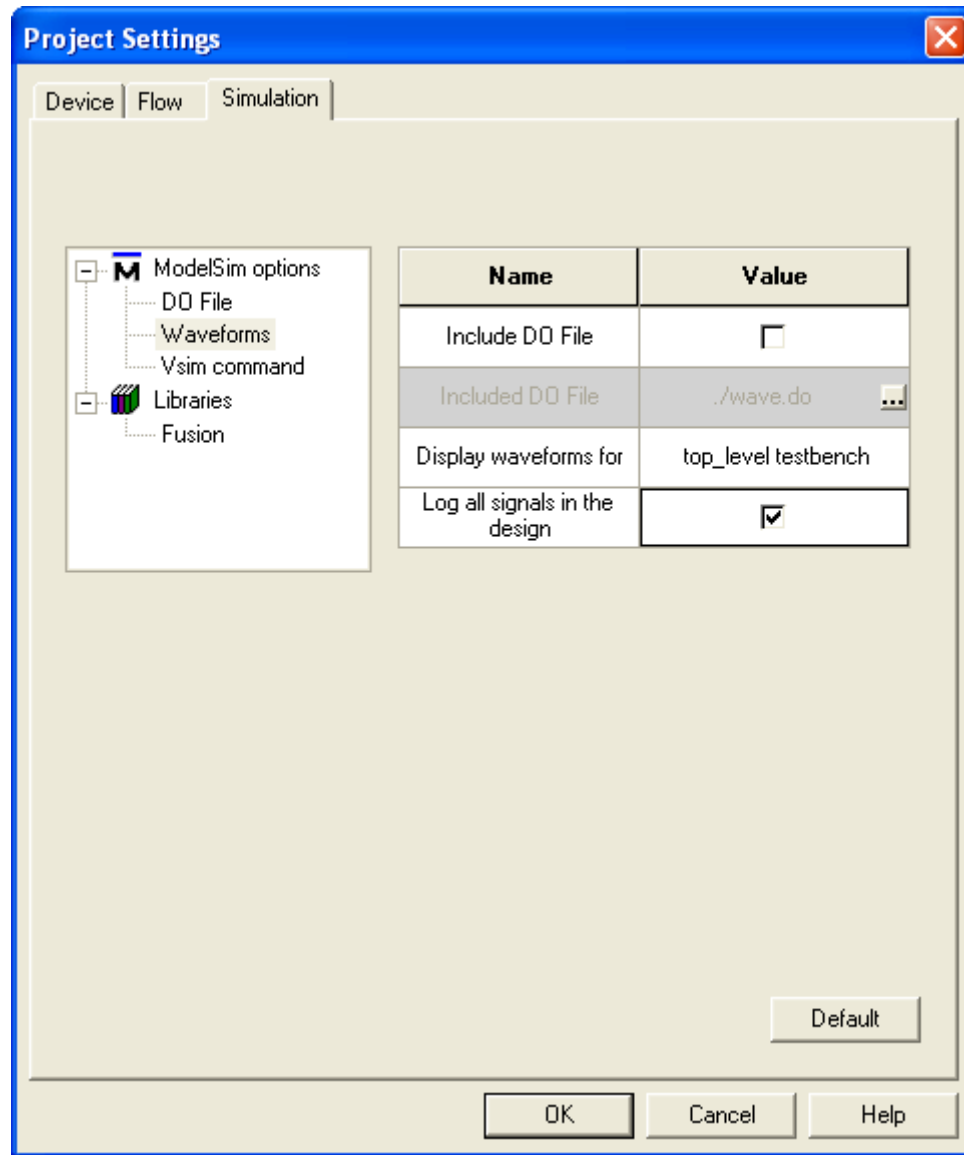

Figure 9-8 • Simulation Settings
- In the left pane, click on **Waveforms** under ModelSim options and in the right pane click the check box to select **Log all signals in the design**, as shown in Figure 9-8 on page 62.